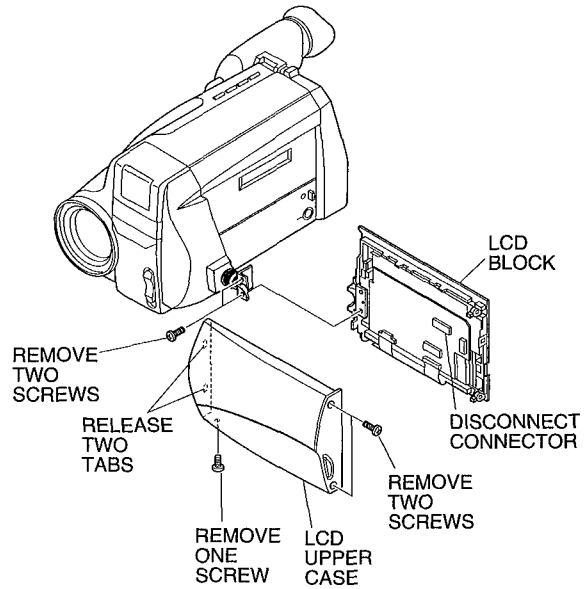

Fig. 2-1
2.1 LCD Upper Case, LCD Block (Fig. 2-1)